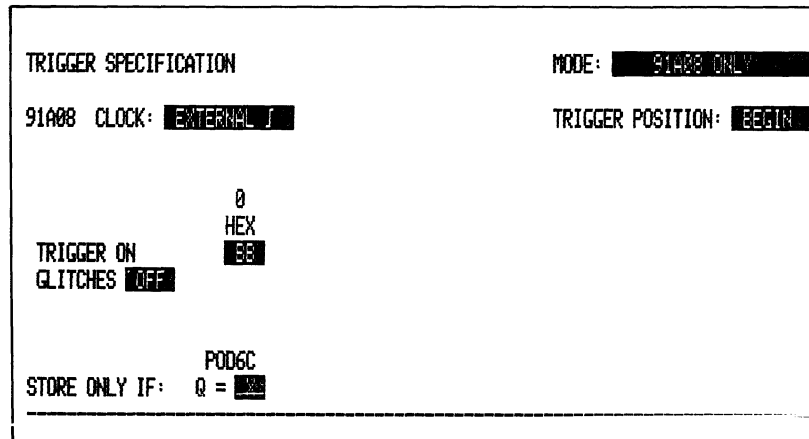

Figure 5-58. 91A08 clock delay adjustment menu.
7. Enter the DAS Trigger Specification menu. The mode should already be set to 91A08 ONLY, and the TRIGGER ON field should contain only Bs. Change the clock to external rising edge. The menu should now look like Figure 5-58.